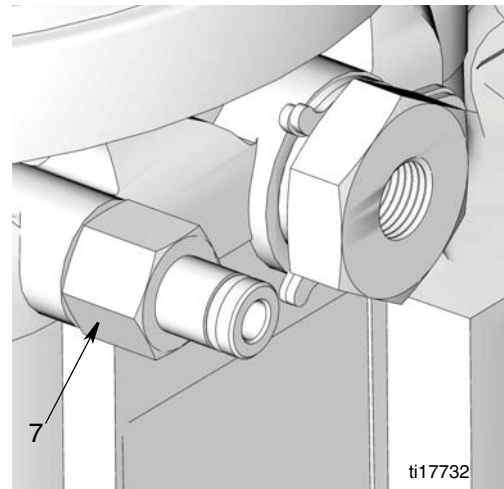

FIG. 3
4. Remove plug from G3 and install vent valve alignment bolt (7) in it's place as shown in FIG. 3. Torque to 30 in. lbs. (0.2 N.m).